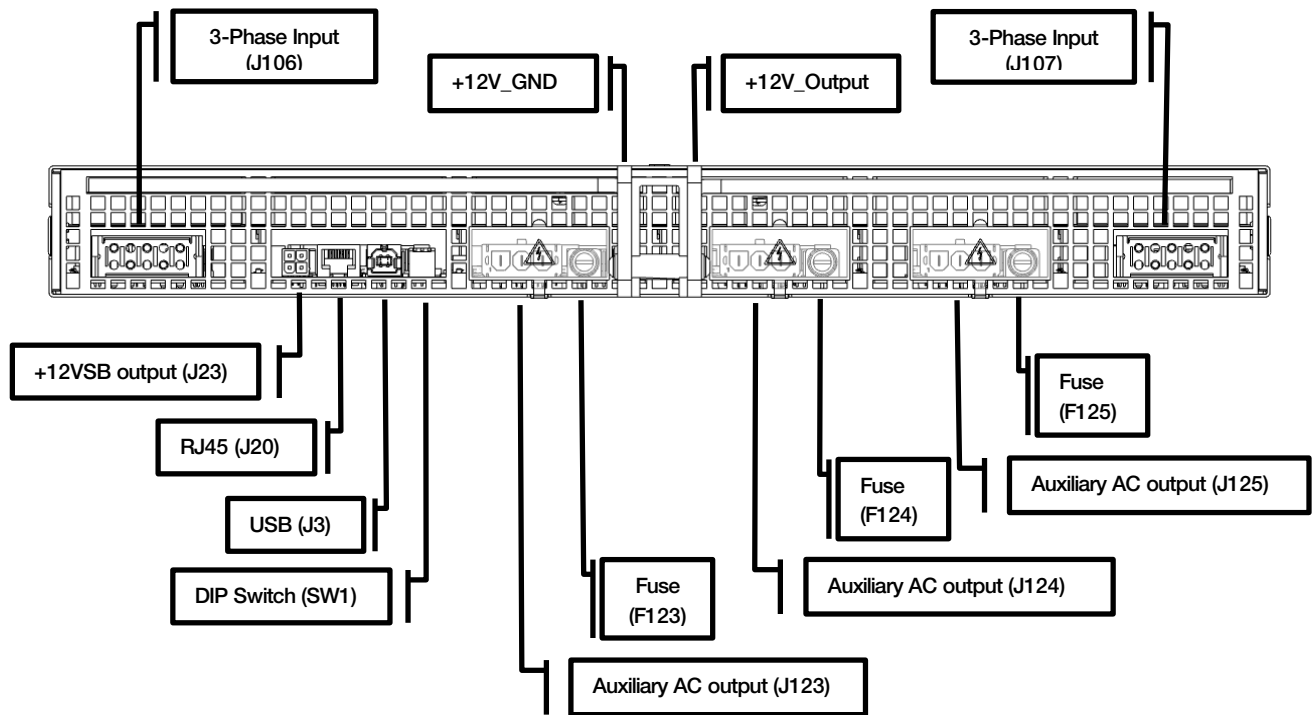

Figure 4. SPSPFE3-04G Rear View
3) Added safety covers on Auxiliary AC output (J123, J124, J125) (see figure 4).